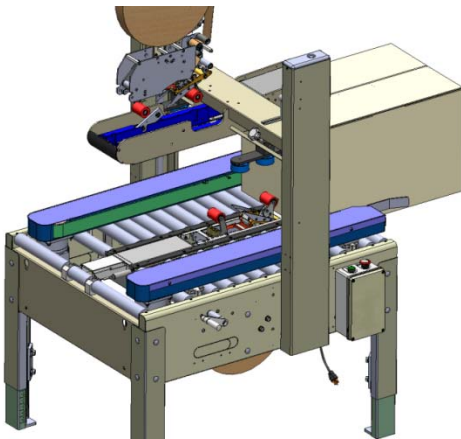

Figure-32
- a. Insert The Case To Just Before Front Roller Of Lower Tape Head As Shown In **Figure-32**